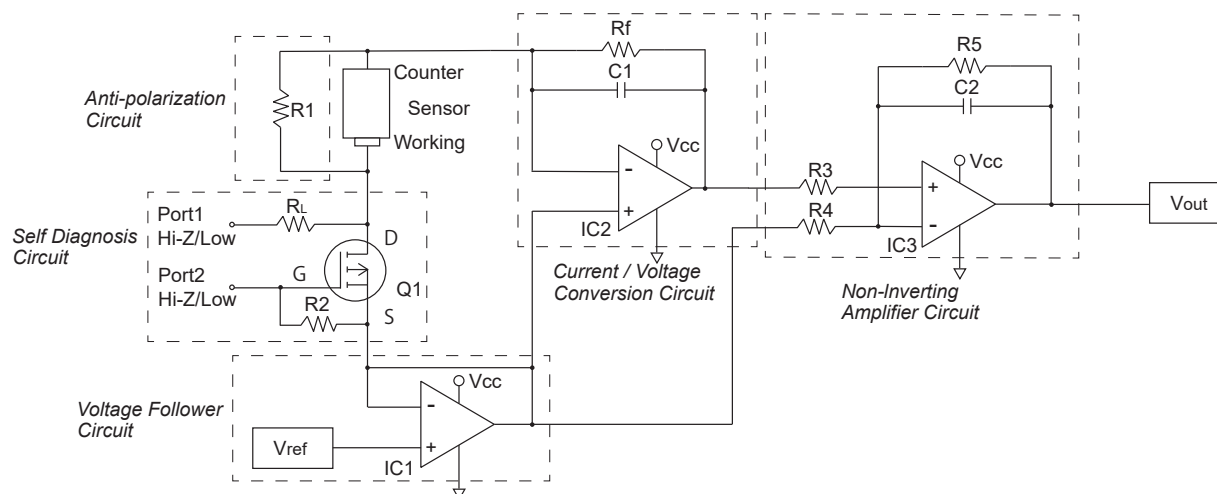

Figure 1 - Example circuit for TGS5xxx sensors
Figure 1 shows an example circuit for CO detectors with the following conditions:
When stored in an open circuit condition (i.e., no connection between the working electrode and the counter electrode), an electrical charge will accumulate on the electrodes. This effect is called polarization. Since sensors are shipped and stored in an open circuit condition, an anti-polarization circuit as shown in Figure 1 (using a fixed resistor R1) is recommended to allow the electrodes to discharge so that the sensor output will stabilize. Please note that the smaller the resistor value, the larger the offset voltage. The larger the resistor value, the longer the output stabilization time.
Instead of using the anti-polarization circuit shown in Figure 1, a JFET can be used for anti-polarization. While a JFET is less cost effective, it takes a shorter time to discharge the sensor. Since stabilization time depends on the level of polarization, it is recommended to check stabilization time in the user's actual circuit under actual environment conditions.
shown in Figure 1.  $V_{out}$  is expressed by the following formula:
Specifically, by increasing the values of C1 in Figure 1, influence by electric noise can be reduced. However, response speed will become slower as C1 increases, so it is necessary to decide the C1 value considering the balance between electric noise levels and response speed.
*Please note that the above Vout level is based on the circuit shown in Figure 1.*